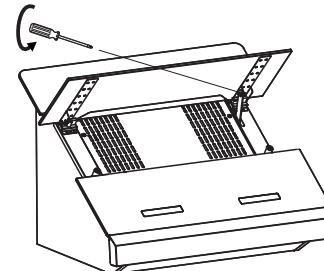

Fig.10
- Remove the grease filter by unscrewing the screw on the rotation support and releasing the glass panel from two hinges. Tilt the filter downward and remove (Fig.10)